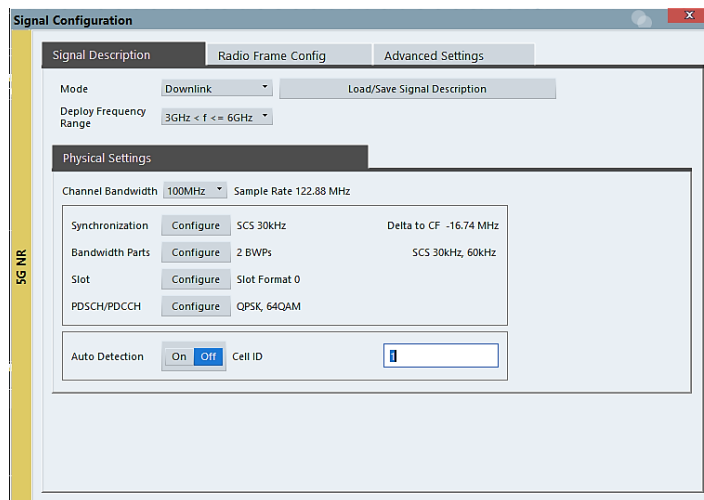

Fig. 2-16: 5G NR measurement Mode Signal Description configuration on the VSE
- 1 Fig. 2-16 shows the Signal Description configuration of the 5G NR measurement modes